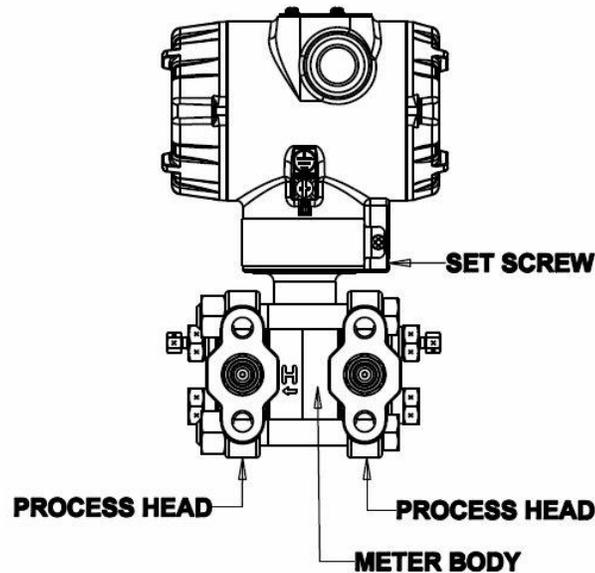

Figure 27 – Hardware Location to Remove the Meter Assembly
8. Refer to Figure 27 . Use a 2 mm hex wrench to completely loosen the set screw on the outside of the housing to permit rotating the meter body.